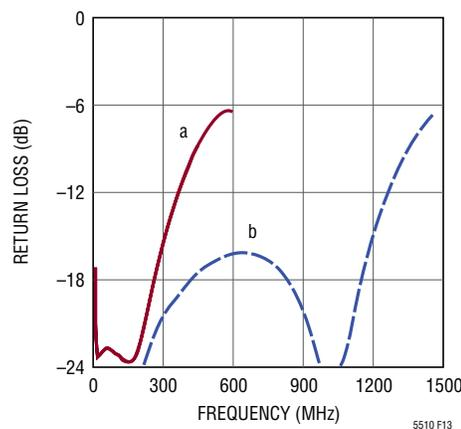

**Figure 12. LF Board Output Schematic**
For lower output frequencies, wire-wound transformers provide better performance. The low frequency (LF) evaluation board (DC1984A) in Figure 3(b) accommodates these applications. The output matching topology is shown in Figure 12. Components L1, L2, L4 and L5 are used to tune the impedance match, while T2 provides the desired impedance transformation. C9 and C10 are used for DC blocking in some applications. Table 6 lists component values used for characterization, and the measured return loss performance is plotted in Figure 13.